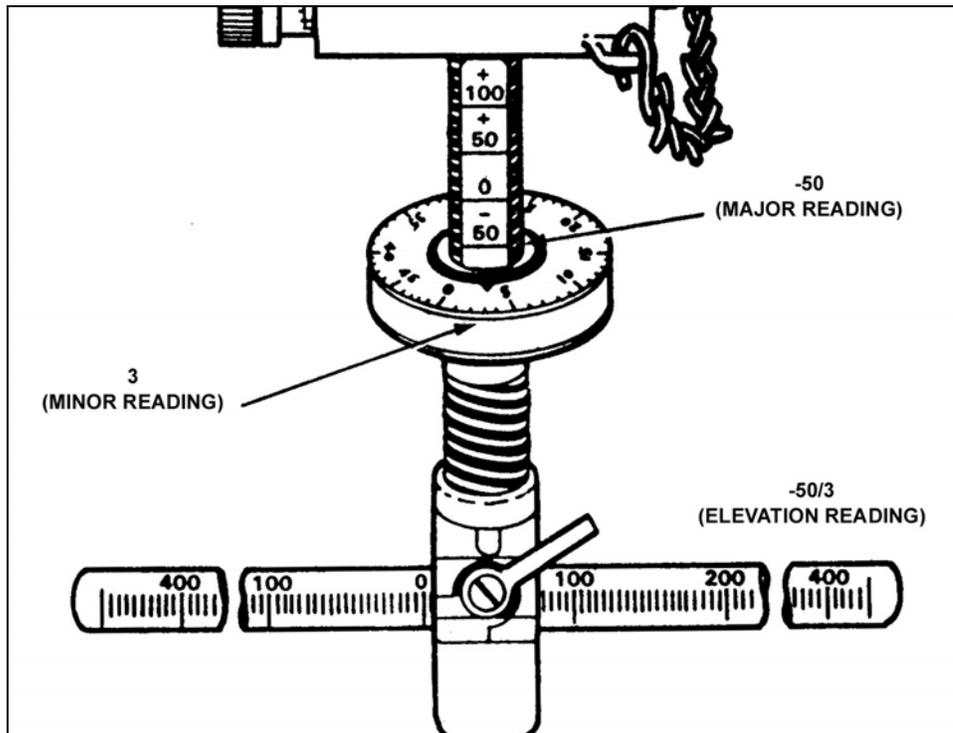

Figure 4-7. Elevation readings.
(1) **Major Reading.** The elevating scale plate is graduated in 50-mil increments from -250 to +100. Except for the zero, each number has a plus or minus sign above it. All numbers, including zero, have an index line below them. To get the major elevation reading, hold the T&E mechanism so that the eyes are even with the top of the elevating handwheel. The major reading (for example, -50) is the first number, with an index line, that is visible above the handwheel (Figure 4-7).
(2) **Minor Reading.** The elevating handwheel is marked in 50 increments of 1 mil each (Figure 4-7). The minor reading, which has no plus or minus sign, is the number that lines up with the pointer. The minor reading represents the number of mils the gun is laid below the major reading, for example, 3 mils. Verify a direction elevation reading by firing and adjusting on the target. Use the dry-fire method to get data to targets without live firing and adjusting. Set the rear sight on the range to the target, lay the gun on the center base of the target, and take direction and elevation readings. Use the dry-fire method only when firing is not feasible.